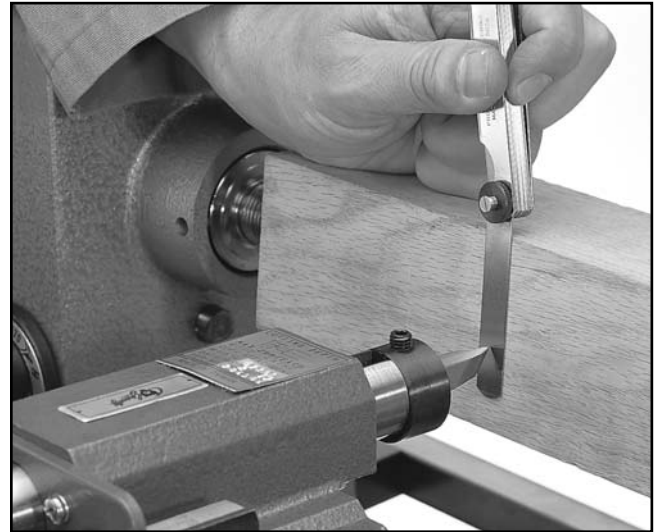

Figure 7. Using precision spacer.
2. Without changing the position of the turning blank, slowly turn the longitudinal feed handwheel to move the carriage toward the opposite end of the lathe. Use a feeler gauge or another precision spacer when starting out to ensure consistent distance between the cutter and the turning square. **See Figure 7.**